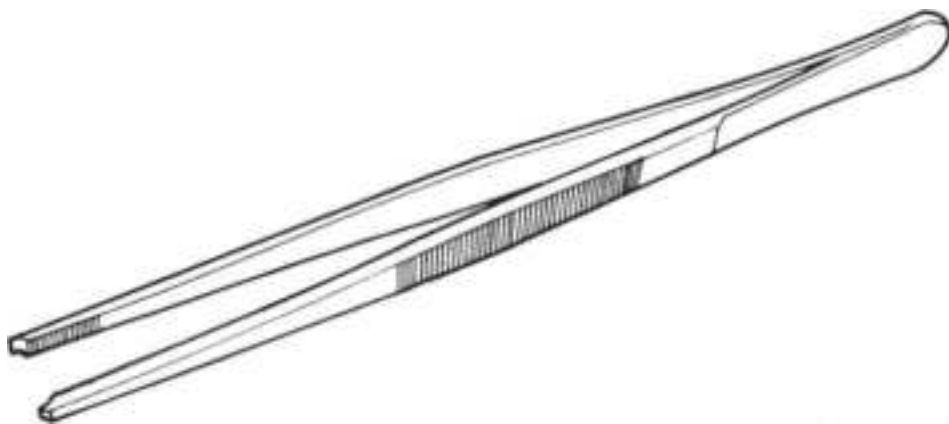

**Figure 2.20** Pin tumbler tweezers make it easy to handle tumblers and other small parts. (*Ilco Unican Corp .*)
- Pin tumbler tweezers (Fig. 2.20 )